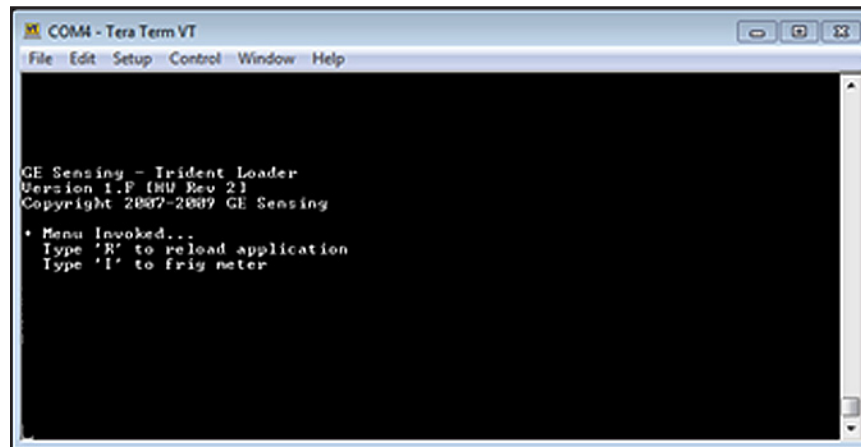

Figure 11: Tera Term Awaiting Input
1. Power on the Sentinel LCT8, then launch the *Tera Term* software and press **ESC** on your PC keyboard. The *Tera Term* terminal window indicates that the meter is awaiting your input, as in *Figure 11* below.